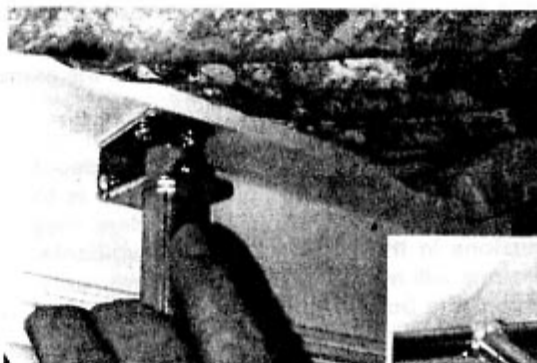

Fig. 13A & 13B. Roof bracket for tent pole (valance not shown for clarity).
9. Inside the unit, in the bunkend, clip the overhead support pole onto the tent bow, which will be laying on the bed mat. Push the support pole and tent bow up and out, raising the bunkend. Insert the adjuster end of support into the bracket on the inside of the roof end board. Adjust the length of the support bar at the adjuster until the bunkend canvas is tight. See Figs. 13A, 13B & 14.